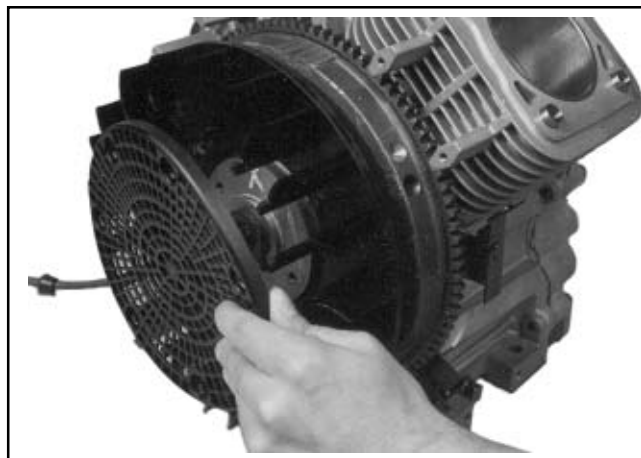

Figure 11-27. Installing Plastic Grass Screen.
3. If the engine has a plastic grass screen, snap the screen onto the fan. See Figure 11-27. Due to the possibility of damaging the posts during removal, install the retainers on different posts from which they were removed. Start the retainers by hand, then push them down with a 13 mm (1/2") socket until they lock. If the engine has a metal screen, it will be installed later.